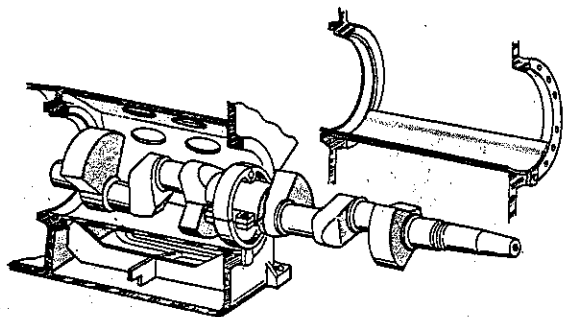
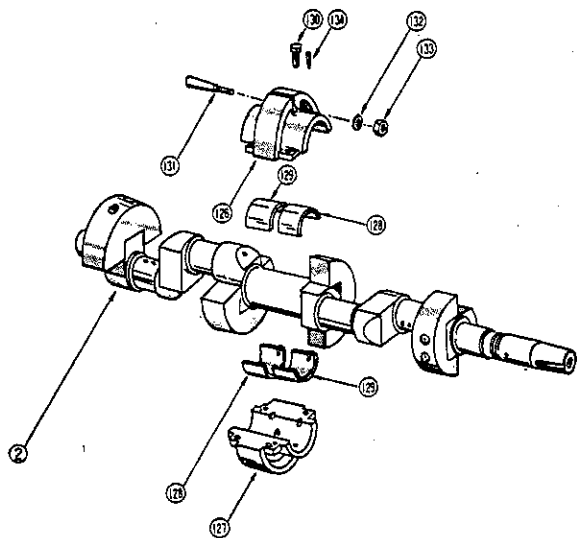

Fig. 78 How to pull out crankshaft, Model 12B & 12-4B
Fig. 79 Mediate bearing, for model 12B & 12-4B
To remove the crankshaft of types 12B & 12-4B, disassemble the main bearing head first. Then the shaft is held only by the mediate bearing as shown Figure 78.
- Remove the oil pump assembly (56) by loosening the screws DG1-6-1. Do not loosen screws DG1-7-1. These screws are loosened only when reversing the direction of revolution. For this purpose loosen screws (60) and turn the oil pump assembly (56) 180°.
- Remove the drag crank (3).
- Using a box wrench, loose the locknut of the taper pin (133) which holds the mediate bearing to the main body. Refer to Figure 79.
- When the locknut has been slackened off about 5mm, tap the taper pin (131) and pull out.
- Although not included in our standard tool kit, a special shaft disassembly tool is available by order and will make this job much easier. (Refer Fig. 78)
- Push out the shaft with a wood block from the hand-hole cover side until the shaft comes out at the position shown as Figure 78. Then hang the shaft at mediate bearing and pull out completely.